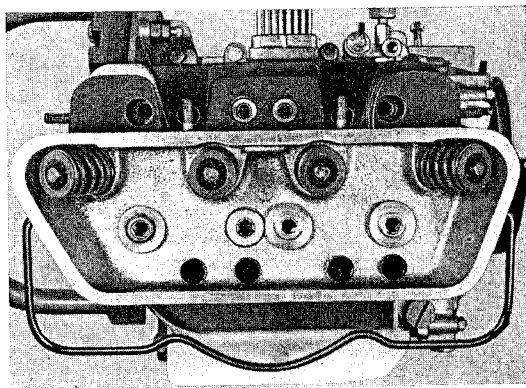

Fig. 136
3. Remove cylinder head nuts with allen wrench and remove washers. See Fig. 136 for position of 8 nuts.